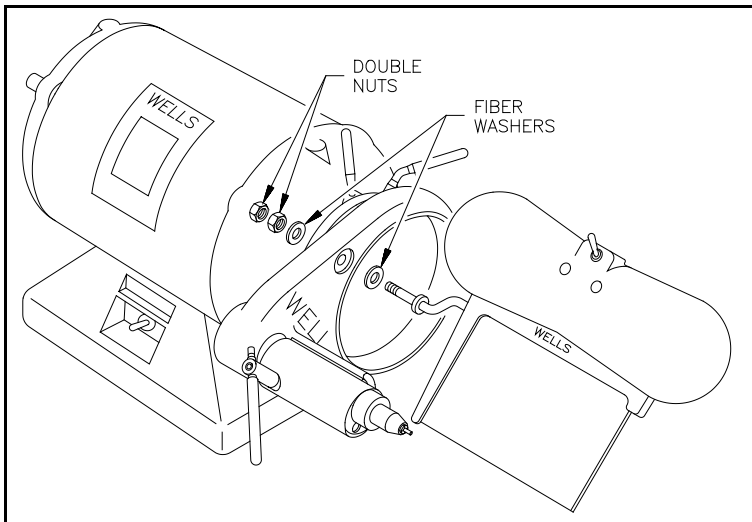

Figure 4. Install the light shield
- 4.3.2 Put the arm through the hole in the bracket. See figure 4. Install the fiber washer and the two nuts on the end of the arm.